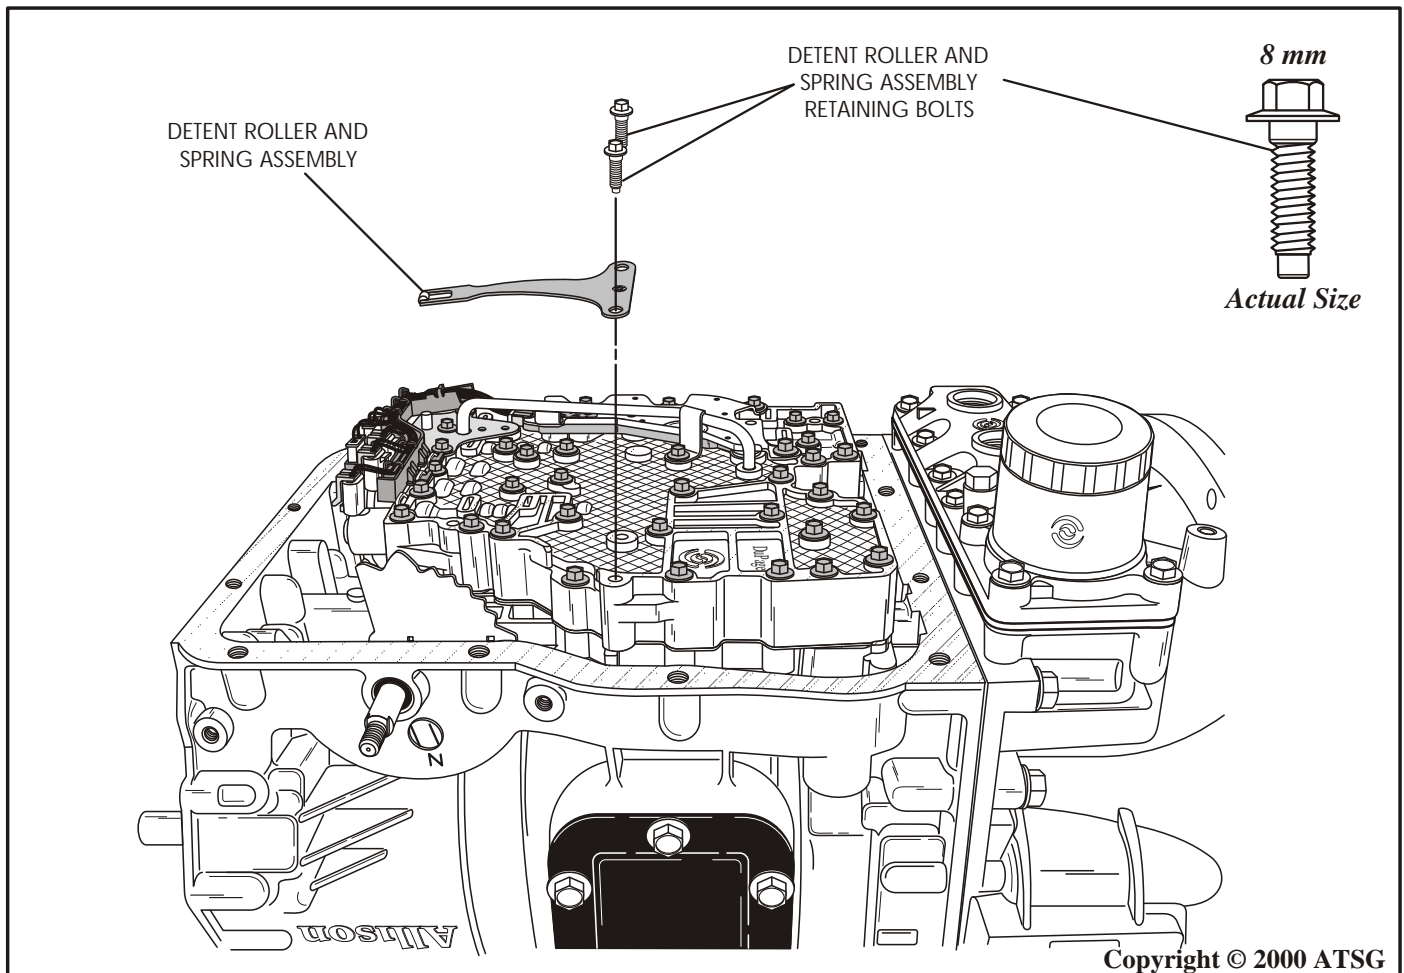

Figure 173
58. Install the inside detent roller and spring onto the valve body, as shown in Figure 173.
59. Install the two detent roller and spring retaining bolts and torque to 12 N.m, (9 ft.lb.). (See Figure 173).